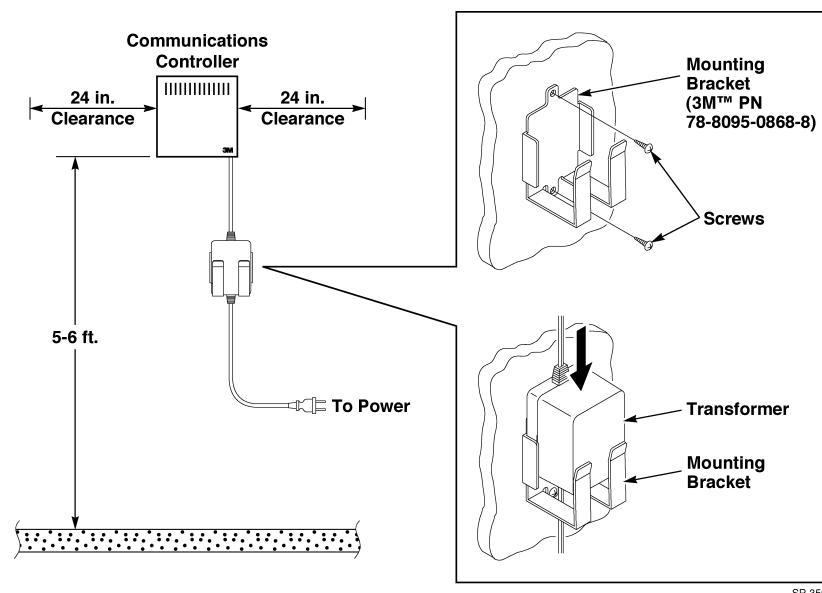

Figure 2. Suggested Communications Controller Placement
See Figure 2.
1. Install the power supply mounting bracket in a preferred location, as shown in Figure 2.
2. Insert the power supply transformer into the mounting bracket, as shown in Figure 2.